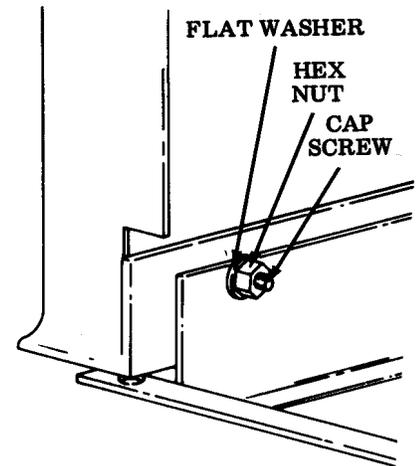

Fig. 3
- (d) Remove slide stop hardware from three slides (see Fig. 3).
(4) DATASPEED 40 Unpacking